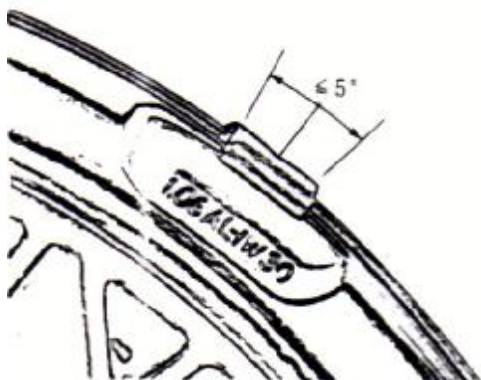

Fig.17
4. Attach the relative counterweight according to the displayed value on the imbalanced point of the rim. The mounting methods are as follows. Fig. 17 shows how to attach pothook-style balance weight, and the Fig. 18 shows how to attach stick-on balance weight.